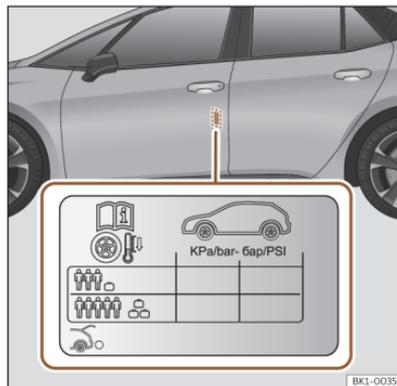

Fig. 195 Location of the tyre pressure sticker.
- Adjust tyre pressure to the load being carried by the vehicle >>> **Fig. 195**.
The values of the tyre pressure are shown on the sticker label located on the rear frame of the front left door >>> **Fig. 195.**
The tyre pressure must be adjusted according to the load the vehicle is carrying. If the vehicle is going to be fully loaded, increase the tyre pressure to the maximum load value shown on the sticker label >>> **Fig. 195.**
In the case of a minimised temporary spare wheel (125/70 R16 or 125/70 R18) inflate to a pressure of 4.2 bar as indicated on the tyre pressure label >>> **Fig. 195.**
- The driver is responsible for ensuring that all of the vehicle tyres are correctly inflated to the right pressure. The recommended tyre pressure is indicated on the label >>> **Fig. 195.**
- Tyre pressure should be that indicated on the label when the tyres are cold at all times >>> **Fig. 195.**